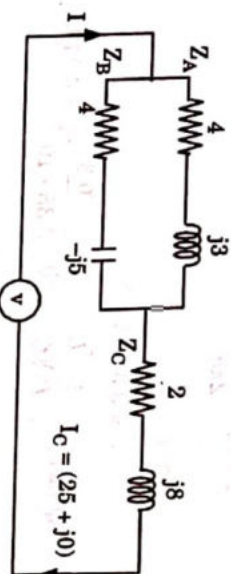

Fig. 2.36.1
1. The circuit is shown in Fig. 2.36.1.